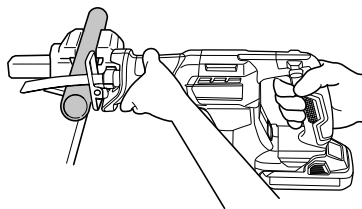

Fig. 24
- Fasten a workpiece firmly before operation. (Fig. 24)